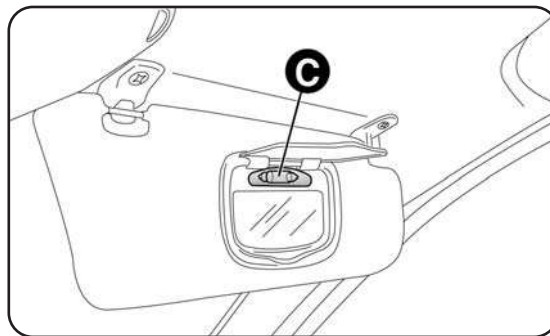

fig. 36
- replace bulb C - fig. 36 releasing it from the side contacts and making sure the new bulb is correctly fastened between the contacts.